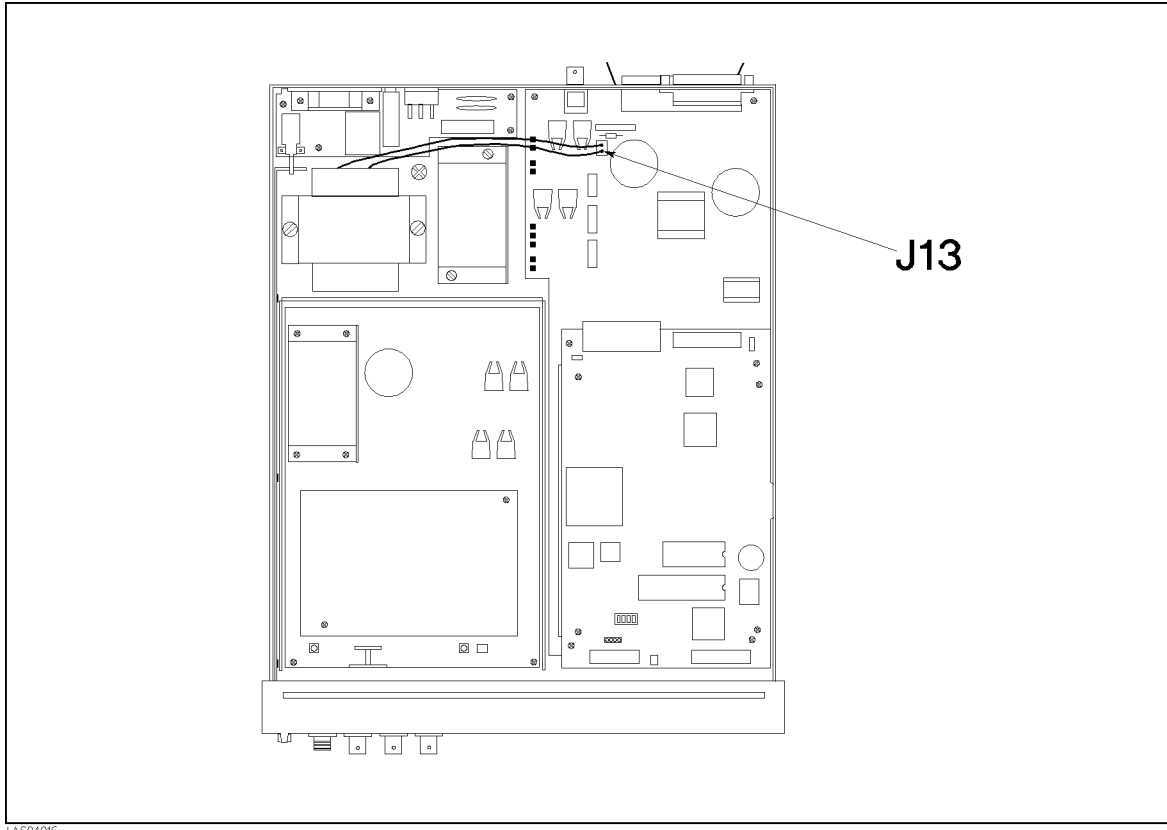

Figure 4-14. Transformer Secondary Voltage Check
2. Disconnect the transformer secondary connector from connector “J13” on the A1 Main Board Assembly. Refer to Figure 4-14 for the connector location.